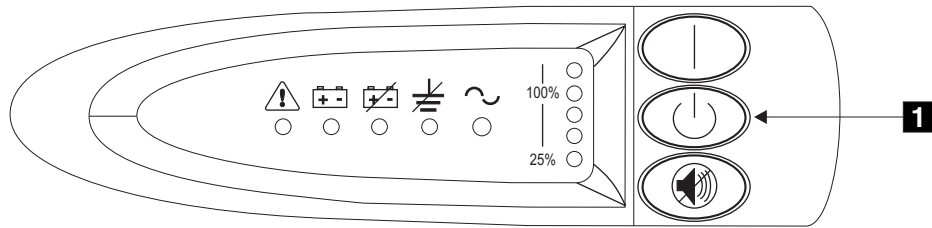

Figure 271. 2145 UPS front-panel assembly
1. At the front of the 2145 UPS, press and hold the off button (**1** in Figure 271) for approximately five seconds or until the long beep stops.